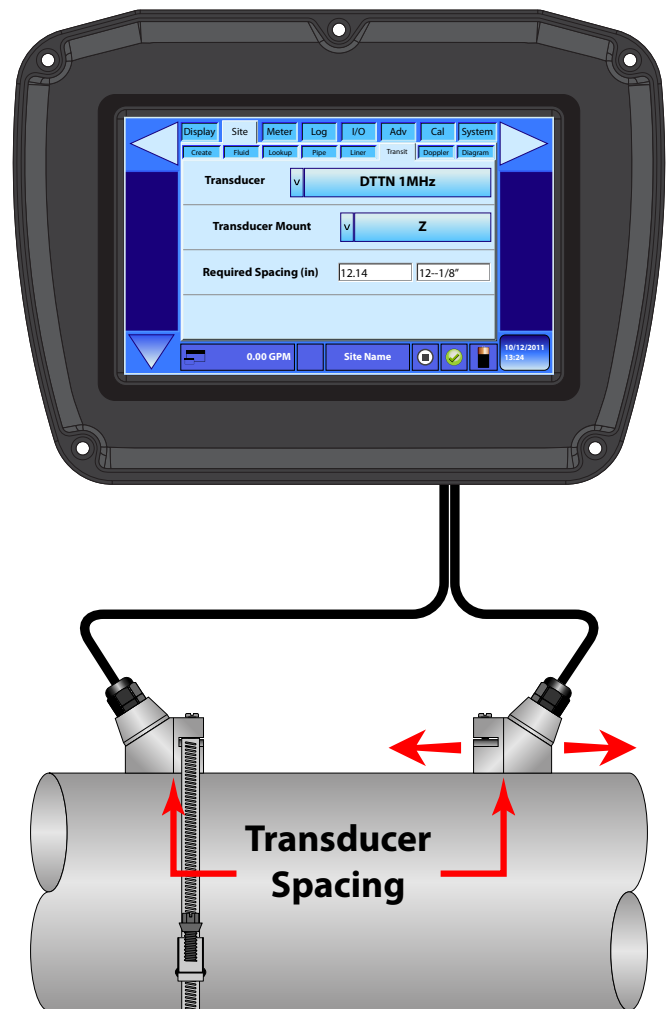

FIGURE 5.4 - TRANSDUCER SPACING
- 2) Place the downstream transducer on the pipe at the calculated transducer spacing. See **Figure 5.4**. Apply firm hand pressure. If signal strength is greater than 5, secure the transducer at this location. If the signal strength is not 5 or greater, using firm hand pressure slowly move the transducer both towards and away from the upstream transducer while observing signal strength.
- 7) Place the downstream transducer on the pipe at the calculated transducer spacing. See **Figure 5.4**. Using firm hand pressure, slowly move the transducer both towards and away from the upstream transducer while observing signal strength. Clamp the transducer at the position where the highest signal strength is observed. Signal strength of between 5 and 98 is acceptable. The factory default signal strength setting is 5, however there are many application specific conditions that may prevent the signal strength from attaining this level.